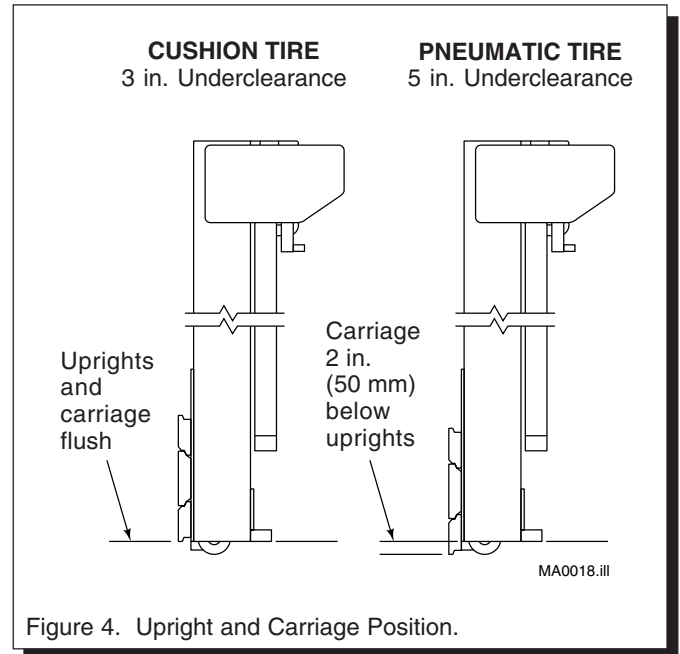

Figure 4. Upright and Carriage Position.
The main lift chains should be adjusted so that when the unloaded mast is fully lowered, the uprights are flush as shown in Figure 4.
- 1 Adjust one chain to achieve the correct carriage position when fully lowered, as shown in Figure 4 and 5.
The free lift chains should be adjusted so that when the unloaded mast is fully lowered, the carriage is positioned as shown in Figure 4.
- 2 Adjust one chain to achieve the correct upright and carriage position when lowered. See Figure 4 and 5.